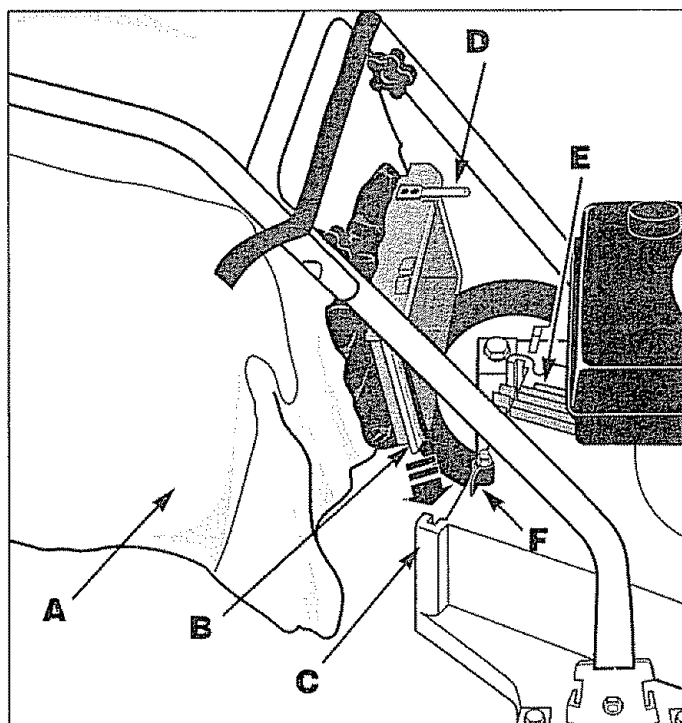

Figure 4: Install collection bag.
2. Make sure the bag (A in Figure 4) is zipped.
4. Line up the tabs on the bag inlet adapter (B) with the slots in the discharge opening (C) and slide the bag inlet adapter down all the way into the slots. Turn the retaining knob (F) until the tab on the knob drops into the slot on the top of the bag inlet adapter.